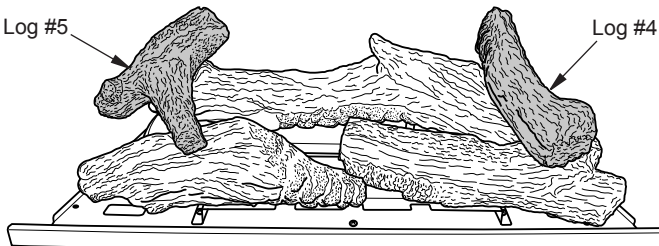

Figure 20 - Installing Logs 4 and 5
4. Install the recessed hole on the bottom of log 4 onto the pin on log 1 and place onto log 3 (see Figure 20).
5. Install the recessed hole on the bottom of log 5 onto the pin on log 1 and place onto log 2 (see Figure 20).
IMPORTANT: Make sure logs do not cover any burner ports (see Figure 20). It is very important to install the logs exactly as instructed. Do not modify logs. Use only logs supplied with heater.